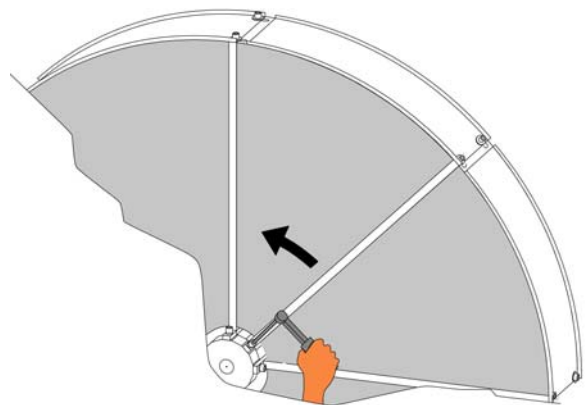

Figure 13
- Remove the spacer discs; tighten opposite socket screws evenly segment by segment (Figures 13 and 14). Always make sure the rotor can turn freely!